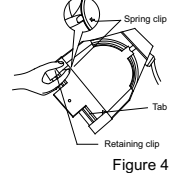

Figure 4
- 1.Position the fixture with the front of the unit (the lens side) facing you, and tilted slightly (Figure 4).
- 5.Press the spring clip with your finger to release the lens (Figure 4).